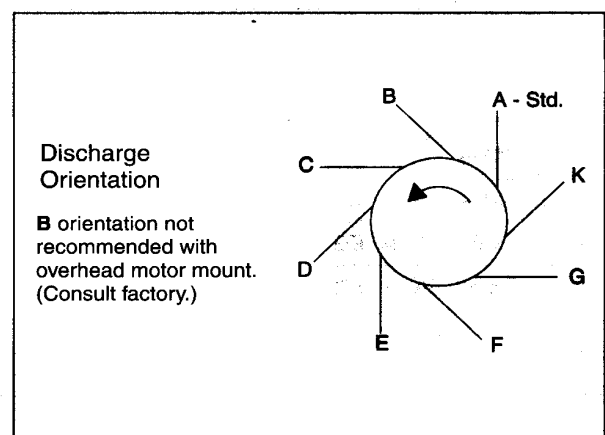

Figure 4-2 • Discharge Orientation Options When Facing Suction Side
1. Fit FRAME PLATE Adapter (380) used on most XU Pumps prior to fitting frame plate to base, making certain that the frame plate shoulder has engaged with the corresponding BASE RECESS. Except for a few smaller sizes, all pumps have provisions for locating the discharge at 45° increments from true vertical. (Refer to Figure 4-2.) Due to their size, the 20/18 TUAHP and 16/14 TUAHP pumps allow only the "C" and "G" discharge orientation.